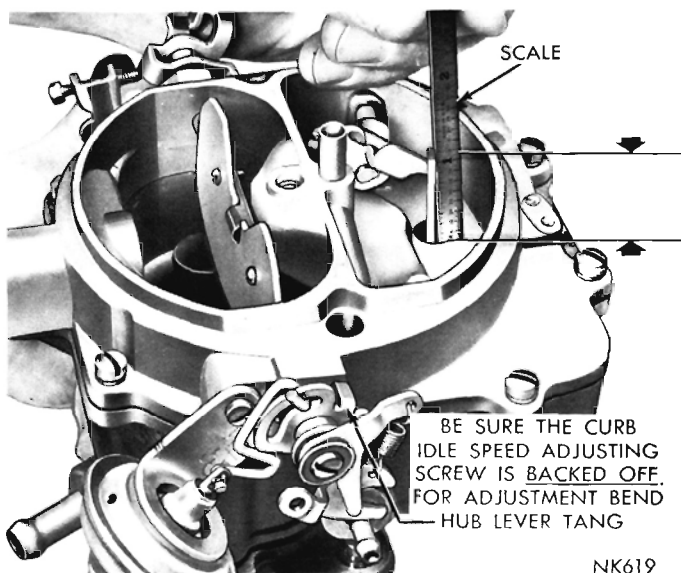

Fig. 9—Measuring the Accelerator Pump Setting
(1) Back off the idle speed adjusting screw. Open the choke valve so that the fast idle cam allows the throttle valves to be completely seated in the bores. Be sure that the pump connector rod is installed in the center hole of the throttle lever.
(2) Close the throttle valves tightly. Measure the distance between the top of the air horn and the end of plunger shaft, as shown in (Fig. 9). This measurement should be 1" + or - 1/64 inch.
(3) To adjust pump travel, bend the pump connector rod, using Tool T109-213, at the lower angle of rod, until correct setting has been obtained.